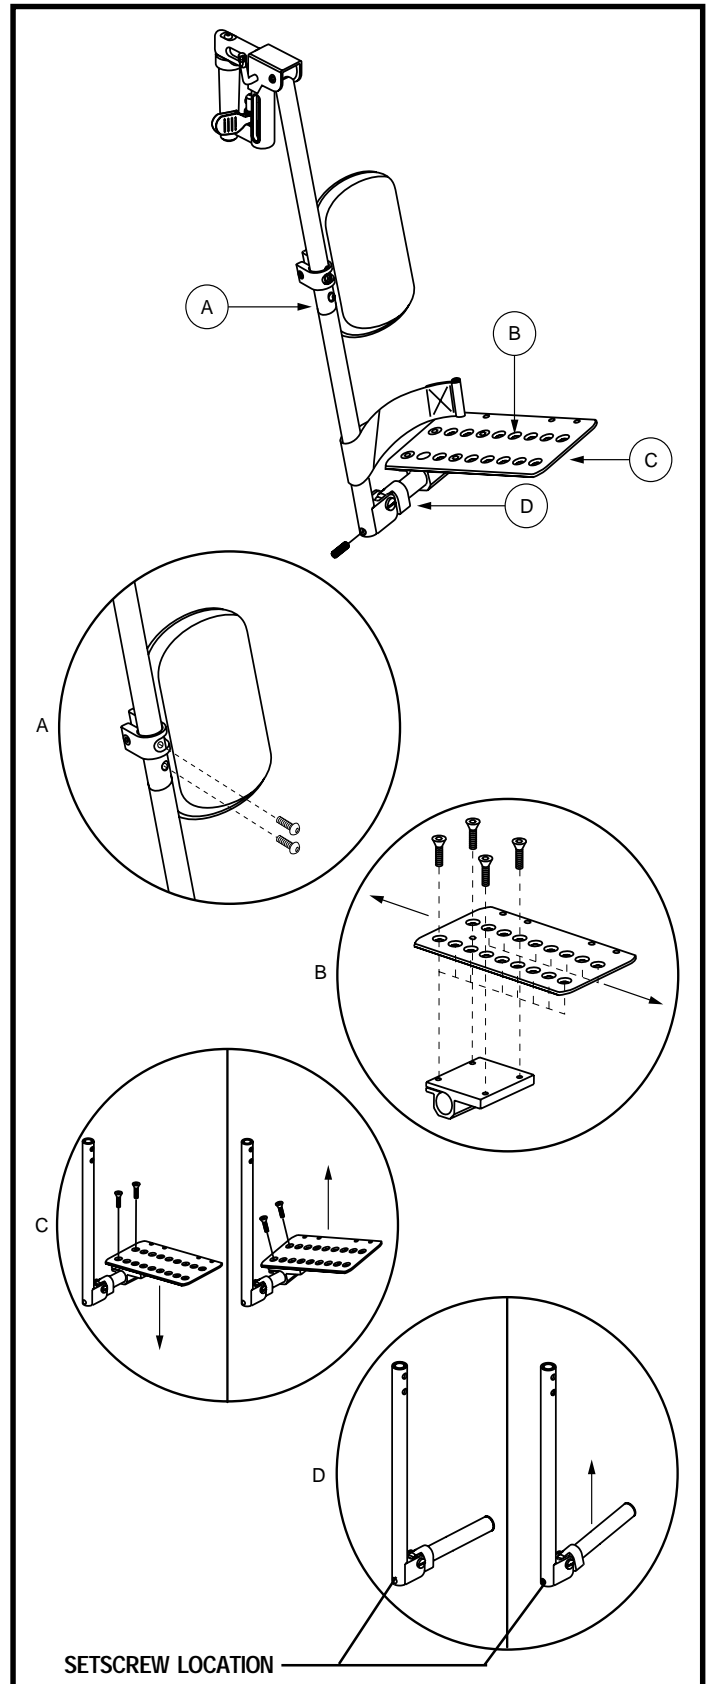

Figure 25. Multi-Axis Foot Plate (ELR Shown)
The multi-axis foot plate assembly can be installed on either a swing-away footrest or an elevating leg rest. The multi-axis foot plate has four adjustments: leg rest length (A), position (B), tilt (C) and angle (D). See figure 25.